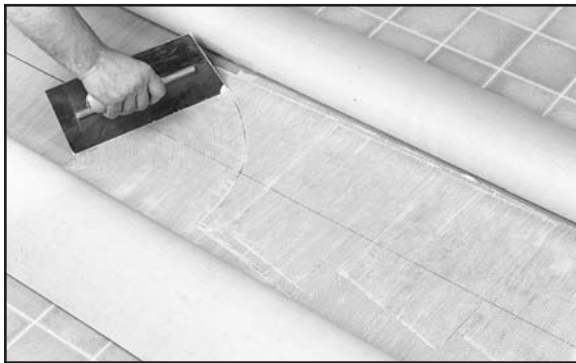

Fig. 21. Apply adhesive to the subfloor in the dry zone with a fine notched adhesive trowel.
- Spread adhesive on the subfloor in the dry zone with the recommended trowel being careful not to overlap previously applied adhesive (Figure 21). Be especially careful that adhesive is not applied excessively to the point that it will be forced into the seam cut when the sheets are placed together. One way to minimize the potential for getting adhesive into the seam is to comb the adhesive lines perpendicular to the seam line and allow a few minutes for adhesive to flash off. **DO NOT ALLOW ADHESIVE TO SKIN OVER.**